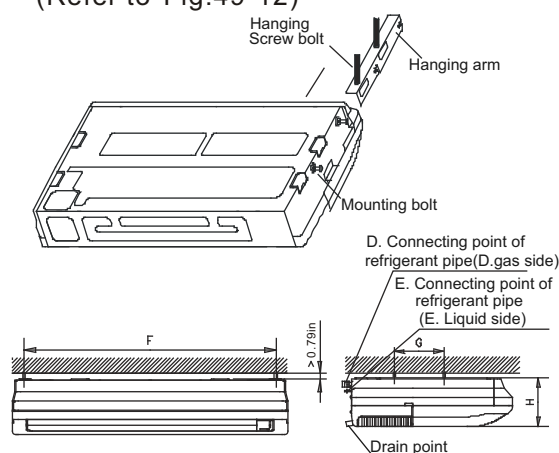

Fig.49-12
3. Hang the unit on the hanging arm by sliding backward. Securely tighten the mounting bolts on both sides. (Refer to Fig.49-12)